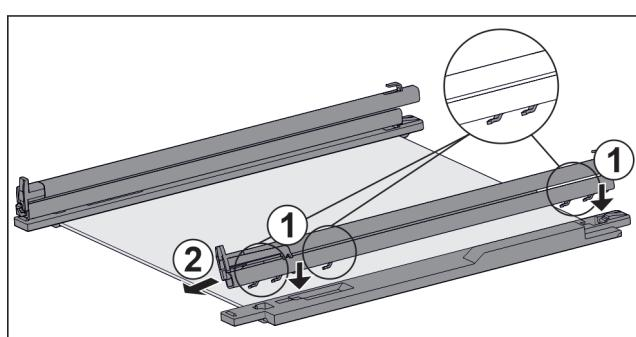

Fig. 133 Glass shelf with rails and retaining parts
- Place rail hooks onto the openings of the **left** retaining part. *Fig. 133 (1)*
- Push rail forwards. *Fig. 133 (2)*
- Place rail hooks onto the openings of the **right** retaining part. *Fig. 133 (1)*